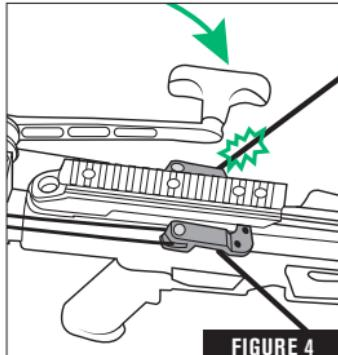

FIGURE 4
2. Draw the crossbow string until just before engagement with the string latch. Pausing at this point is necessary to determine if the Crank Arm position of the Power Draw Rope Cranking Device will contact the string as shown in Fig. 4. If no contact will be made, skip to Step 5.